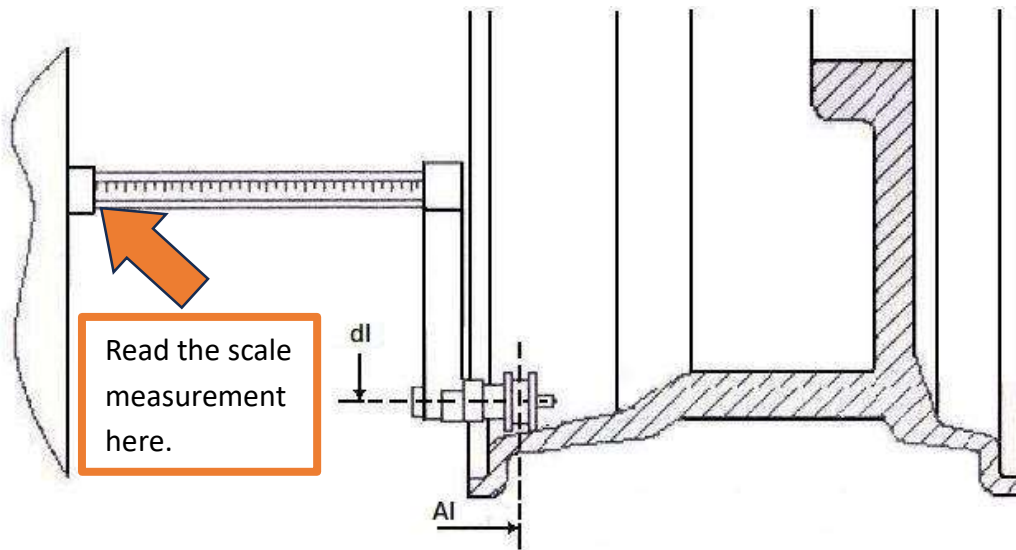

Figure 3.4 ALS mode measure rim inner side distance AI and Inside diameter dI
- Pull out the offset arm so that it touches the inner lip of the rim and lean it against the position where you want to attach the balance weight (See Figure 3.4).
- Read the length value. As shown in Figure 3.4, the distance unit is mm. Press the **【A+】** or **【A-】** key, to modify the AI parameter (the inner distance of the rim), and input the current inner distance parameter. The system will save the current set value if no **【A+】** or **【A-】** key is pressed within 2 seconds, and return to the interface before modification.